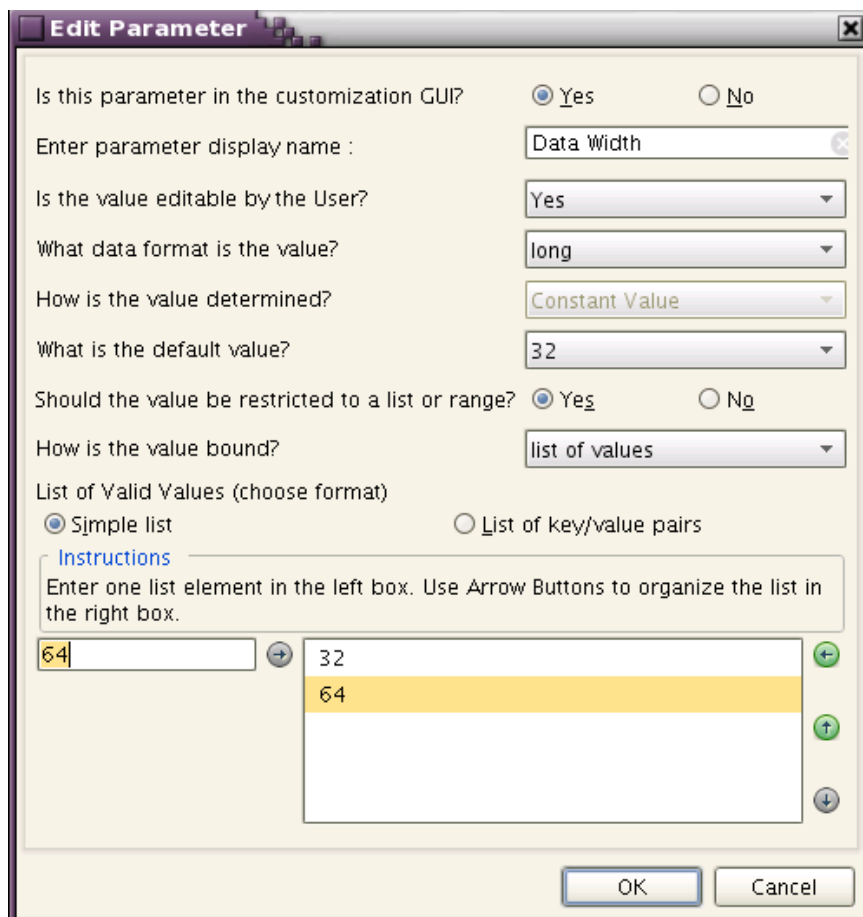

Figure 20: Edit Parameter Window for AXI4 Master
3. Update the following fields in the Edit Parameter window (Figure 20) and click **OK**. These fields update the GUI. The AXI data width parameter will be limited to two choices.